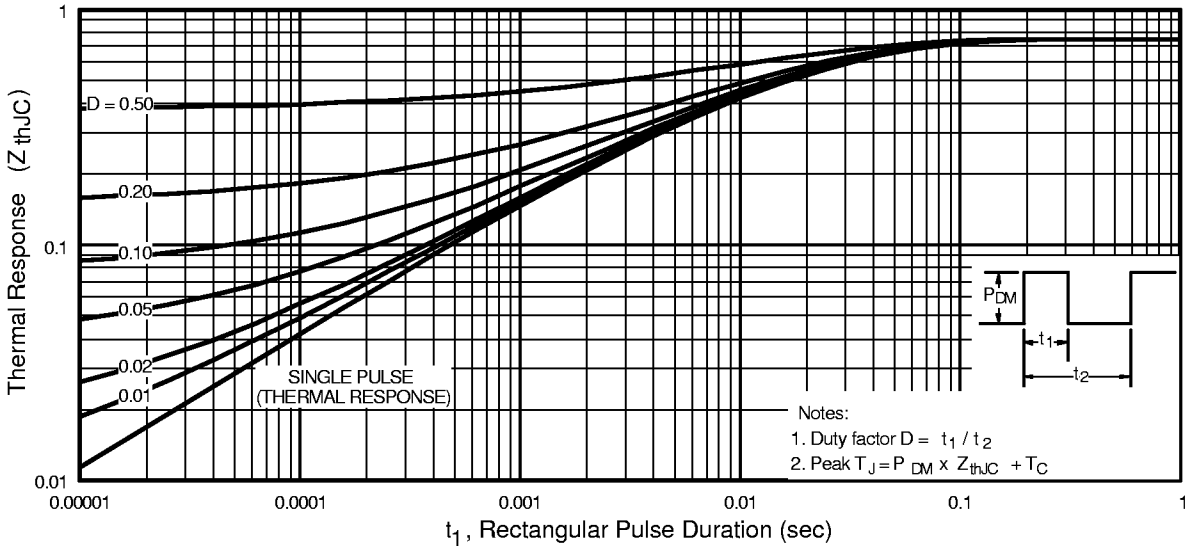

Fig 11. Maximum Effective Transient Thermal Impedance, Junction-to-Case
- ① Repetitive rating; pulse width limited by max. junction temperature. (See fig. 11)
- ② $V_{DD} = 15V$, starting $T_J = 25^\circ\text{C}$, $L = 180\mu H$